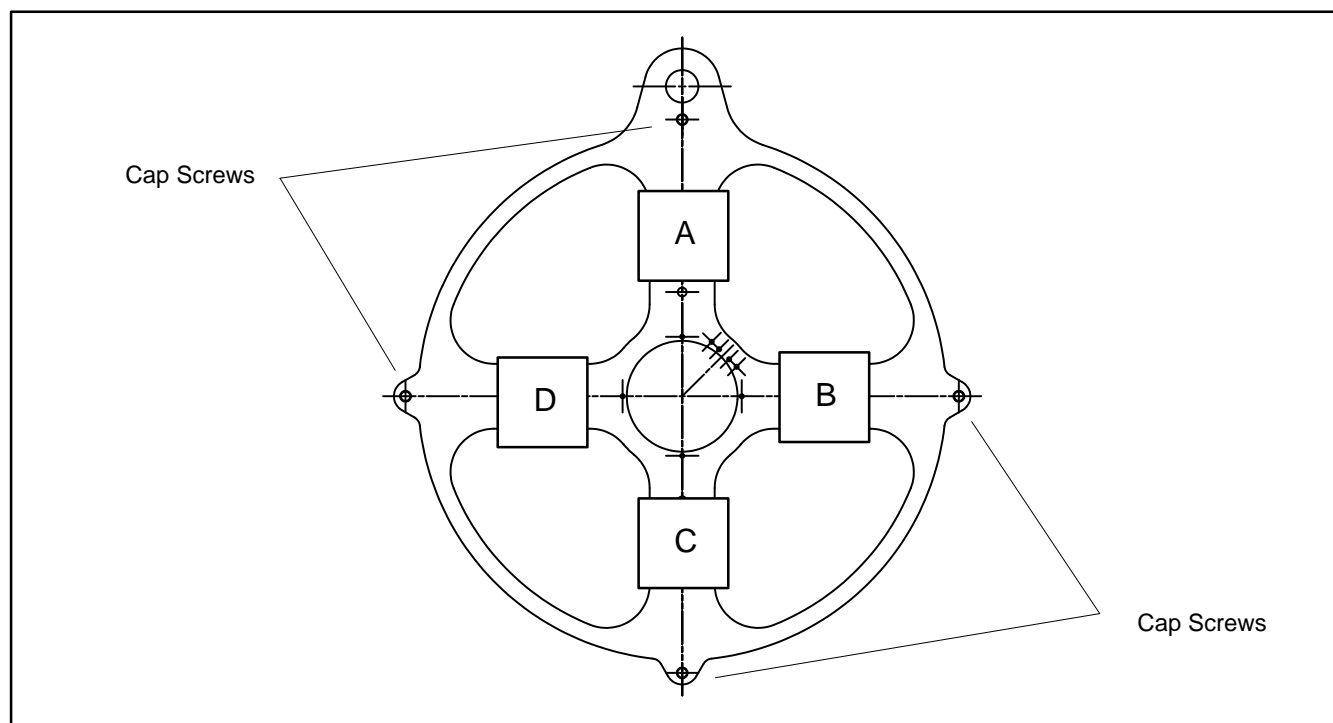

Figure 2. Cast Iron End Bracket
2. Use a hard rubber or dead-blow hammer to alternately strike end bracket with medium force blows. Use the sequence shown in Figure 2 (use applicable illustration) to install end bracket.